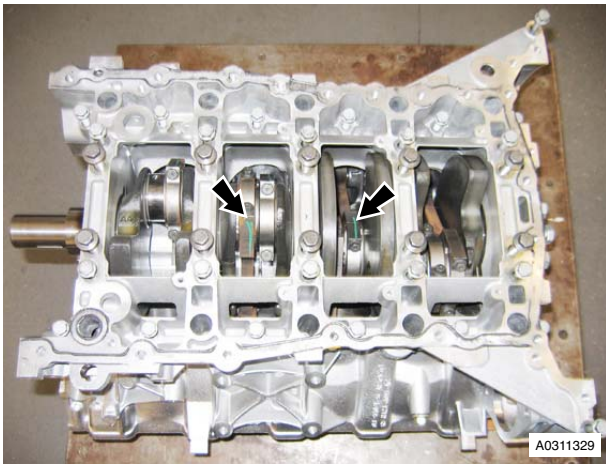

Figure 12
26. Mark bearing caps and connecting rods for correct installation (see Figure 12).